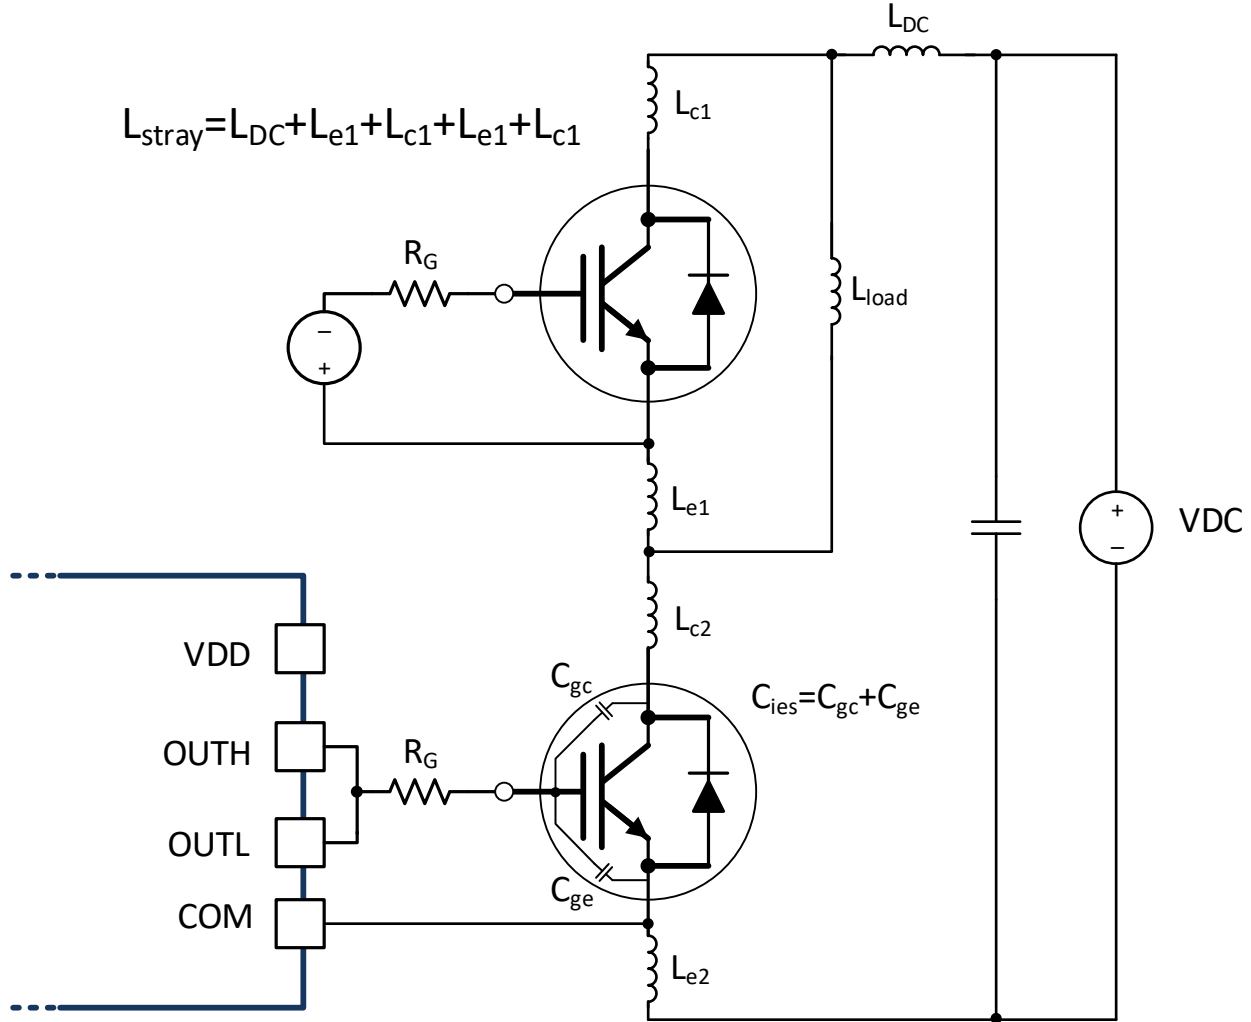

图 9-6. Stray Parasitic Inductance of IGBTs in a Half-Bridge Configuration
- L_{stray} is the stray inductance in power switching loop, as shown in 图 9-6